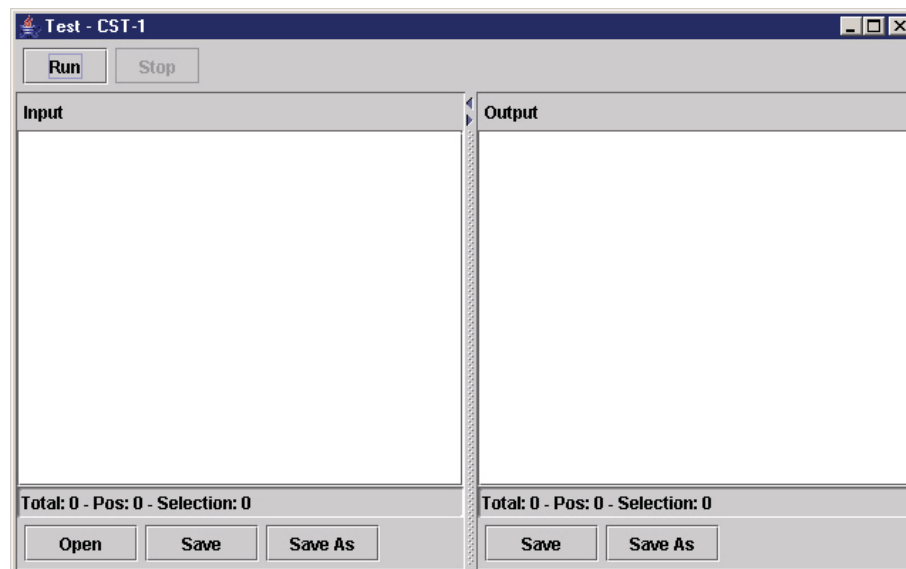

Figure 162 The Test Window
35. Select **Tools** ► **Test**. The Test window opens. See Figure 162.